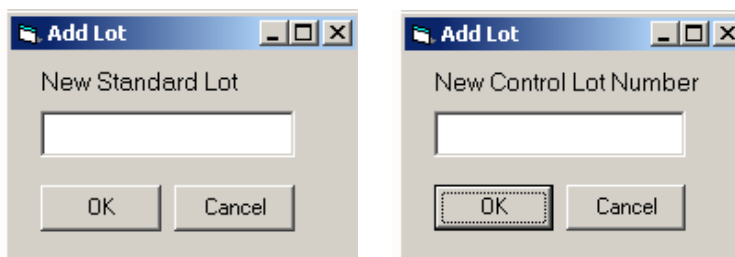

Figure 5-64 Add Lot Standard and Control Dialog Boxes
- a.) If this is a new template with no associated lot information, a **New Standard Lot** or **New Control Lot** dialog box opens as appropriate. You must enter the standard and control names to continue. See Figure 5-64. Once you enter the names, the **Update Lot Information** dialog box opens. See Figure 5-65.
- b.) If this is a template with associated lot information, the **Update Lot Information** dialog box opens. To create a new lot when there is an existing lot, select the **New Lot** button from the Standard or Control section of the dialog box. See Figure 5-65. A **New Standard Lot** or **New Control Lot** dialog box opens. Enter the standard or control lot name. See Figure 5-64.